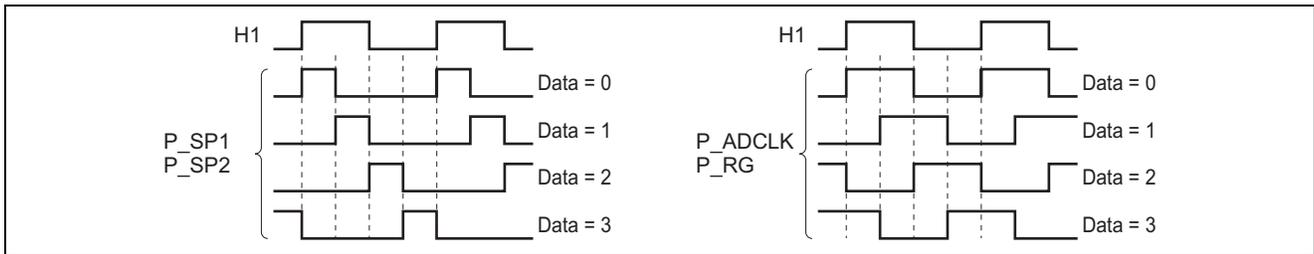

Figure 13 2 Divided Mode, 1/4 Phase Select (Valid at D15 = 0 of address H’F8)
- Select the 1/4 phase from figure 13 at 2 divided mode (D15 = 0 of address H’F8).